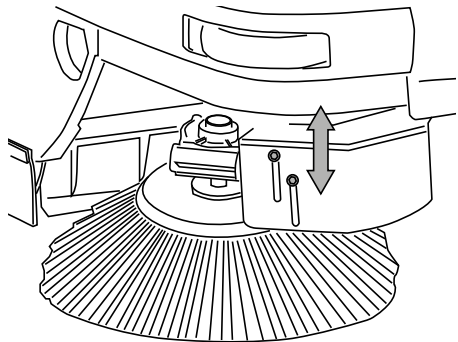

fig. 20
- Loosen the adjustment screws on the brush motor support (fig. 20).